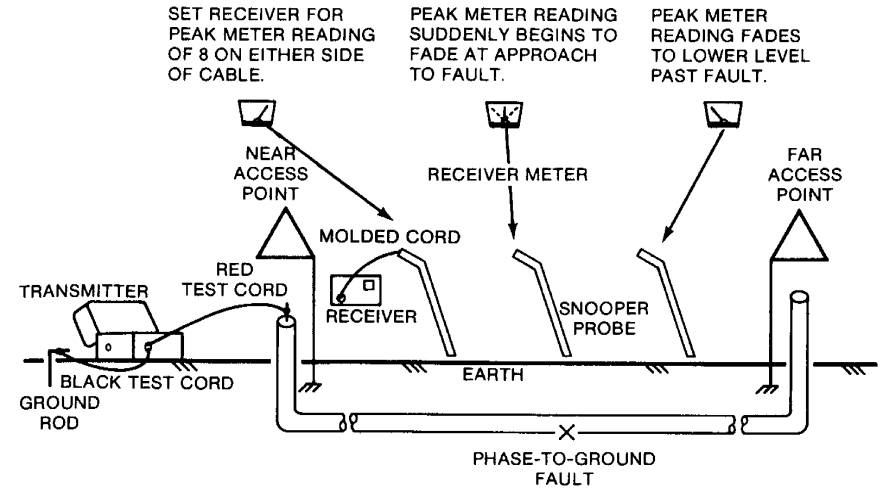

Figure 4-2.
3. Connect the black test cord clip to the ground rod (see Figure 4-2).
4. Plug the jack end of the red/black test cord into the TRACING TONE jack receptacle on the transmitter (see Figure 4-2).